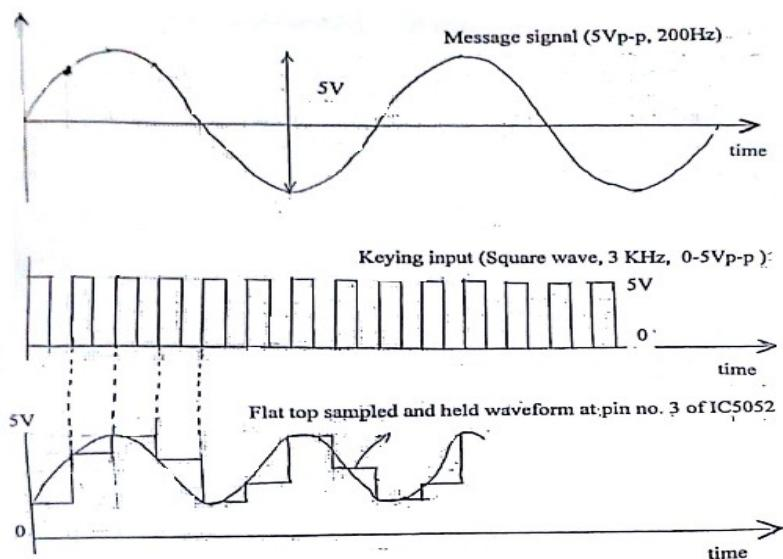

Fig 6b: Flat top sampling output waveform
- Fig.6b is an example of a transistor mixer. One signal drives the base; the other drives the emitter. One of the input signals is large; this is necessary to ensure non-linear operation. The other input signal is usually small. One of the reasons this small is because it often is a weak signal coming from an antenna. At the output of collector, the two original frequencies, sum, difference and their harmonic frequencies are produced. The mixer output of Fig.6b is filtered by two low-pass RC circuits (2nd order LPF) that eliminates all the higher frequencies and passes only the difference frequency signal. The approximate cutoff frequency of each RC circuit is given by $f_c = 1/2 \pi RC$.